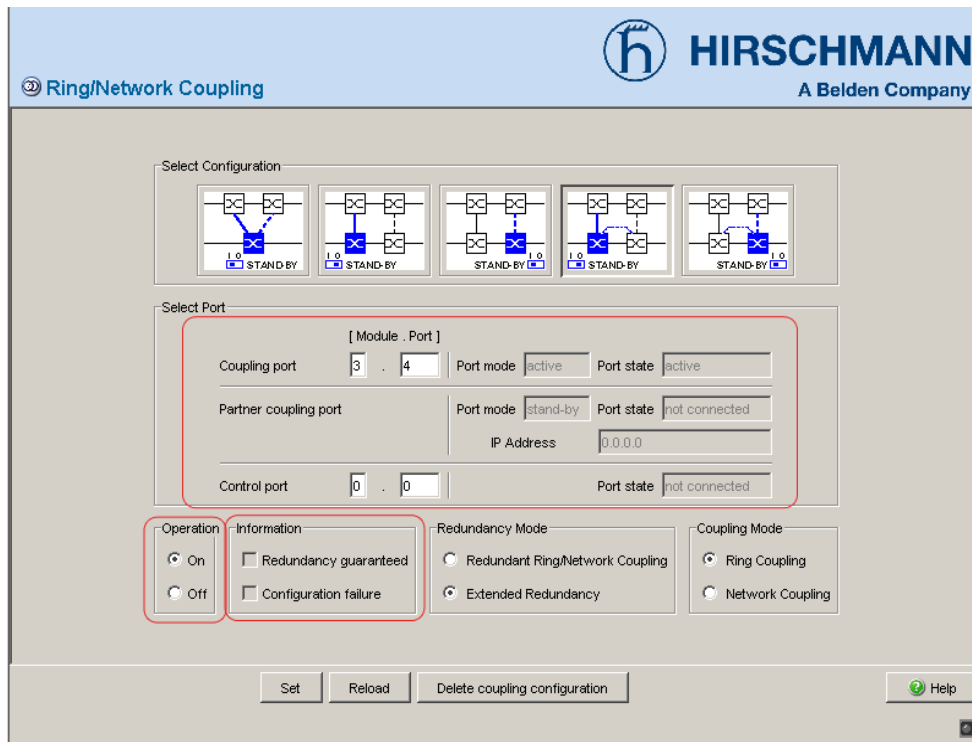

Figure 22: Selecting the port and enabling/disabling operation
- ☐ Select the coupling port (see fig. 22), (see table 10).
- ☐ Select the control port (see fig. 22), (see table 10).
☐ Activate the function in the “Operation” frame (see fig. 22).
The displays in the “Select port” frame mean (see fig. 22):
The displays in the “Information” frame mean (see fig. 22):
- ☐ Activate the function in the “Operation” frame (see fig. 22).